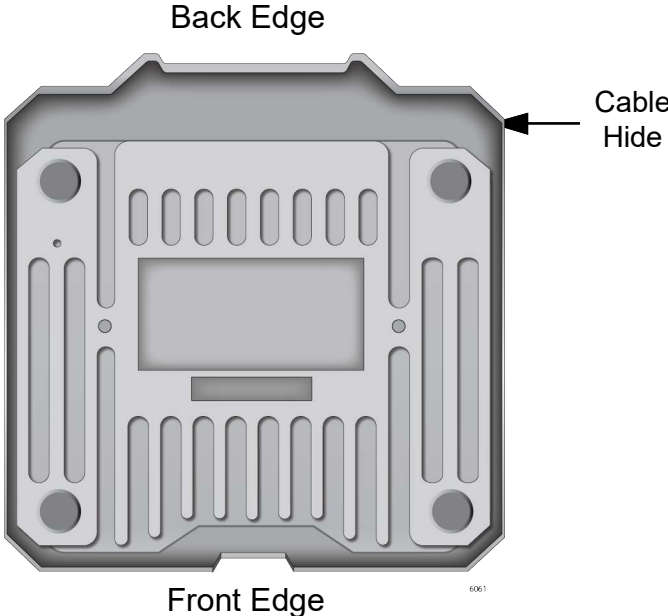

Figure 2. Access Point Bottom View
The bottom view is illustrated in Figure 2.
- Cable Hide** The top cover of the access point is larger than the access point chassis to create space on the back for cable connectors and cables shown in Figure 2 on page 13.